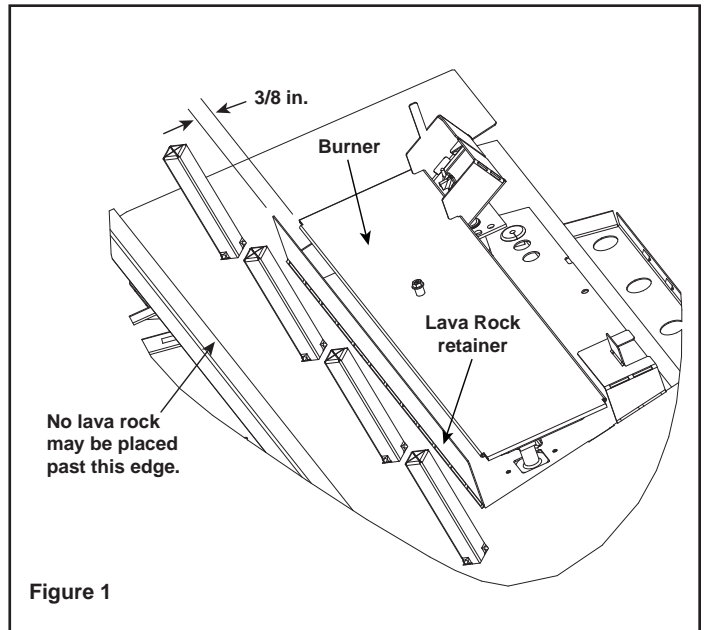

Figure 1
**Note:** Figure 1 illustrates the recommended gap between the burner and the lava rock retainer.
**Step #6:** Apply the supplied lava rock as shown above. Take care to ensure that no lava rock is placed past the line indicated in Figure 1.